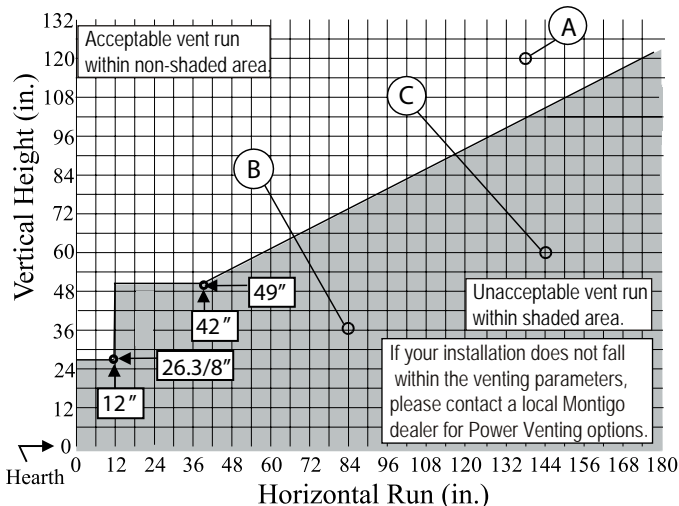

Figure 15. Rear Vent Venting Graph for NG wall mounted terminations.
- Venting runs must fall within the limits set by the venting graphs, see Figure 15 or 15a.
Measure the vertical height from the fireplace hearth to the centre of the termination and the horizontal run from the fireplace flue collar to the wall flange of the termination. Plot on the Venting Graph Figure 15 or 15a with an 'X'.
Figure 16a. Rear Vented, wall mounted Multi-elbow termination installation for NG or LP. Installation must comply with the Venting Graph for Rear vent, wall mounted terminations, Figure 15 or 15a.